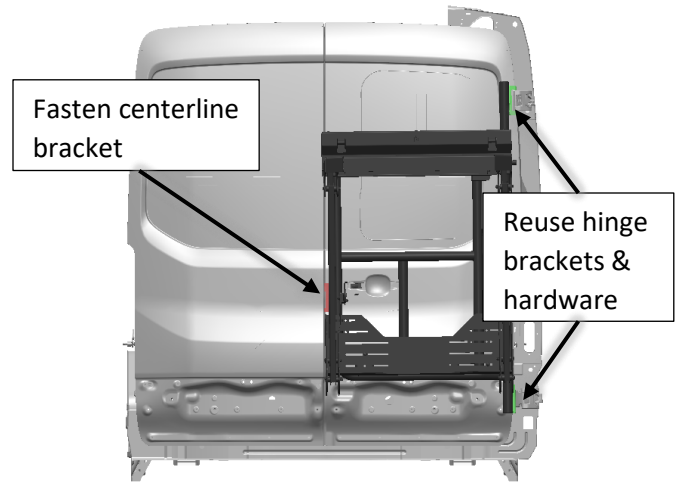

Figure 33: PowerLift and Base Unit Installation
27. Install the Base Unit/PowerLift Bike Rack assembly onto rear door of vehicle (Figure 33). Reuse the upper and lower hinge brackets from the Base Unit Installation. New hardware for outer and inner brackets have been provided for your convenience. Securely fasten